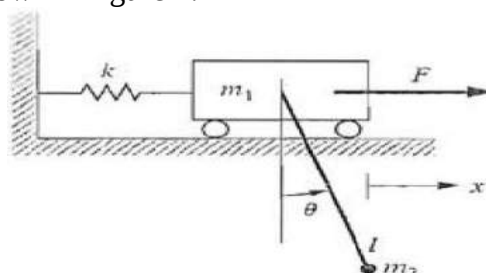

Figure 1
- 5 Using Lagrangian mechanics, Derive the equations of motion for the two-degree-of-freedom system shown in figure 1. [16M]